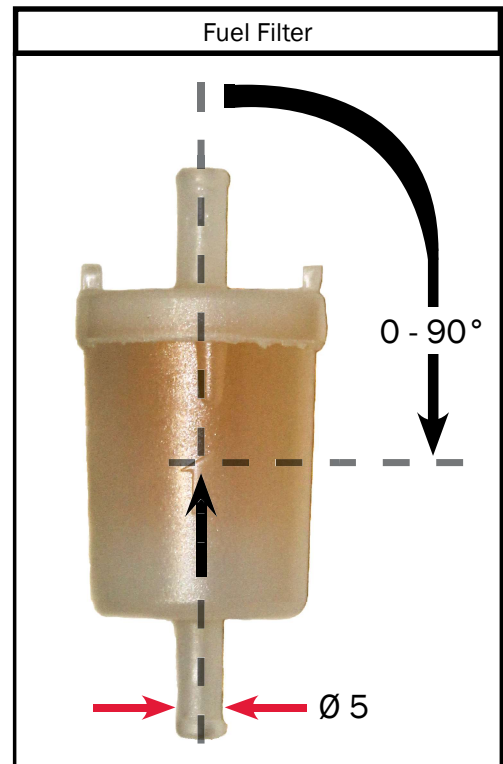

Figure 68
- The filter can be mounted vertically or horizontally; note the installation position and direction of flow (see Figure 68).